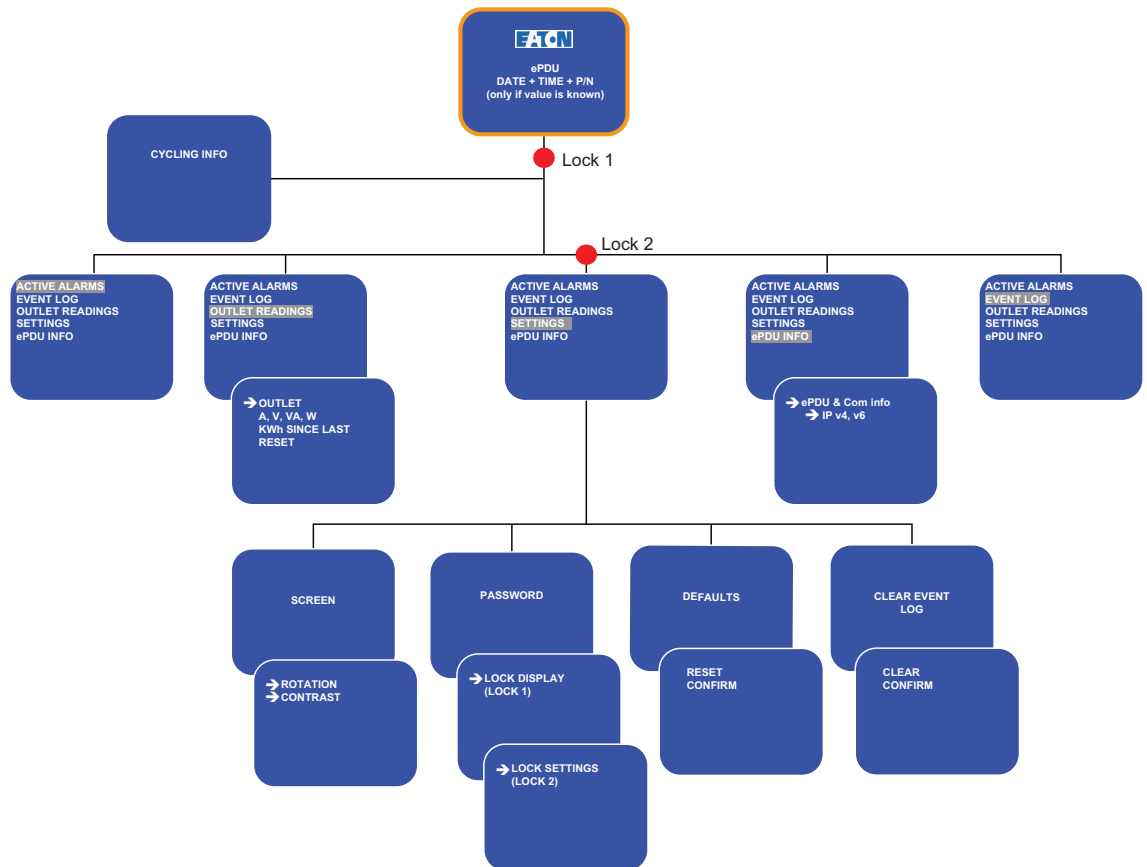
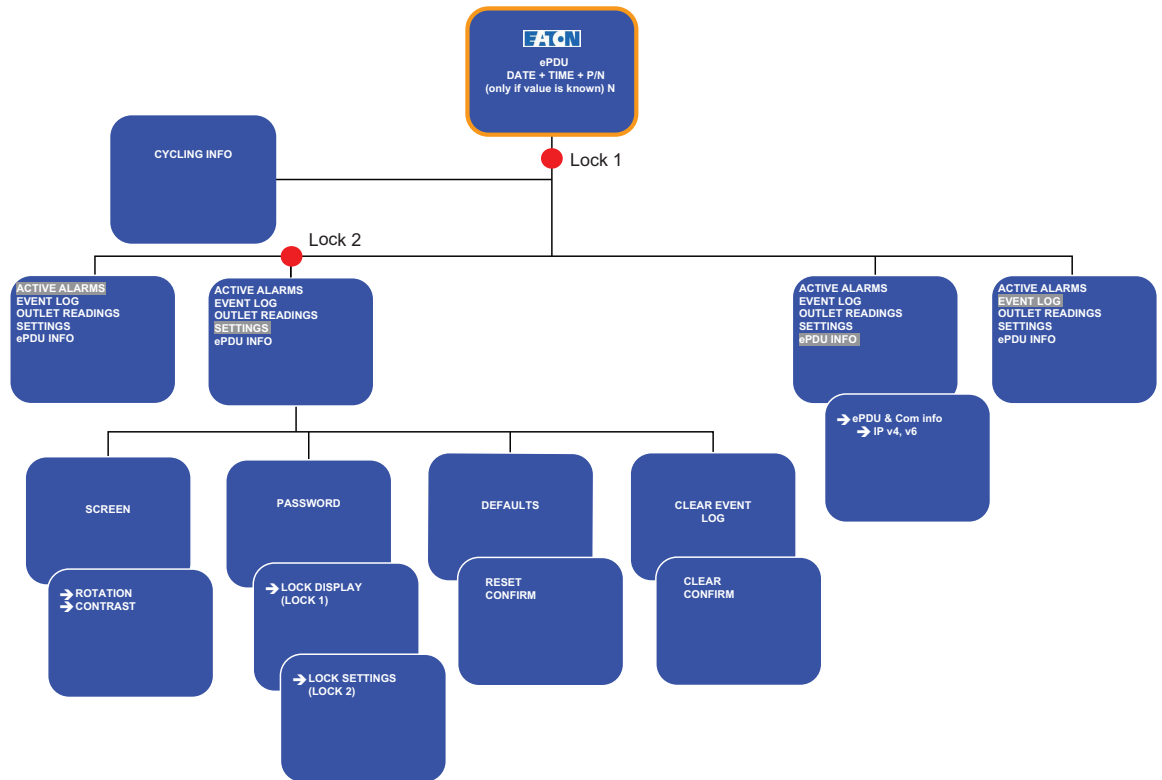

Figure 46. AM and MA Menu Structure
Figure 47. SW Menu Structure
The available menu functions depend on the model type. The Advanced Monitored (AM) and Managed (MA) menu structures are the same (see Figure 46). The Switched (SW) menu structure is slightly different because the SW menu does not contain an Outlet Readings selection path.
Lock 1 (display lock) and Lock 2 (settings lock) in Figure 46 and Figure 47 illustrate which lock password should be entered if the Input Password screen displays. See “Lock 1 and Lock 2 Passwords” on page 72.